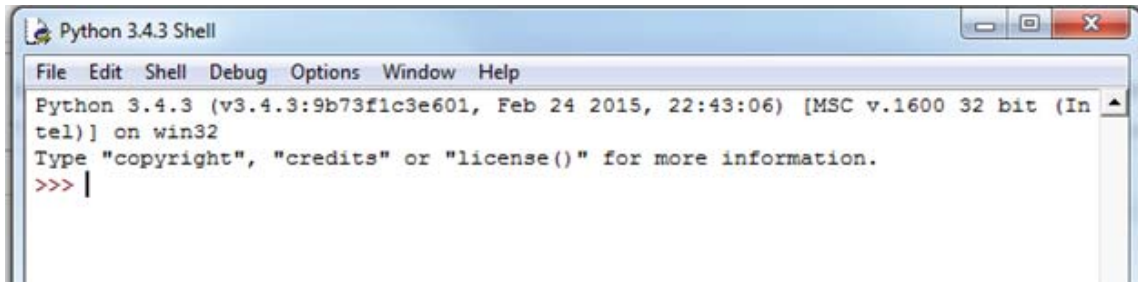

Figure 1-4. Python Shell
6. The Python 3.4.X shell will open and take line by line commands. See Figure 1-4